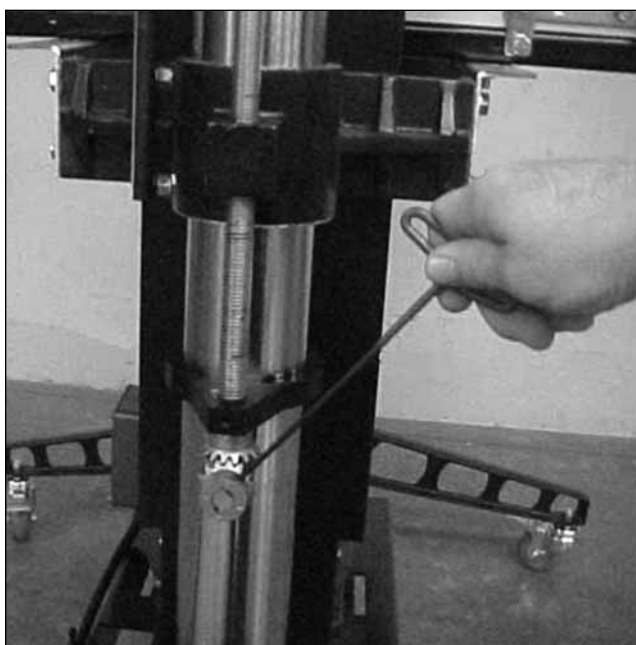
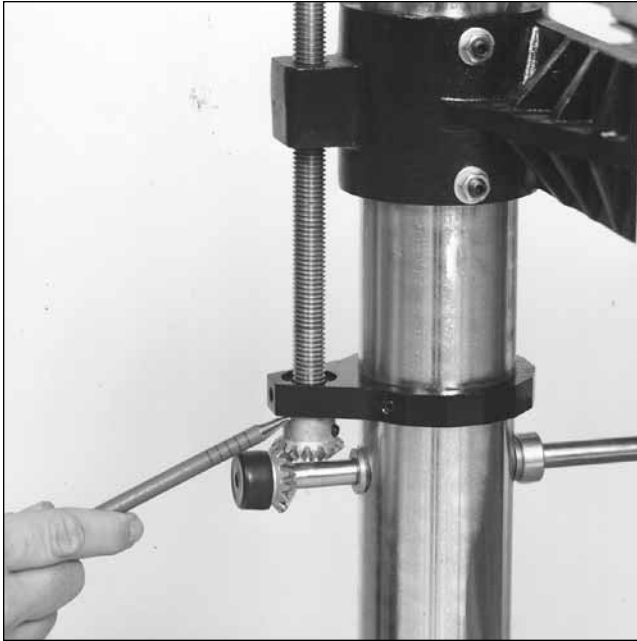

Fig. 20. Adjusting miter gears for proper mesh.
Fig. 21. Miter gear below adjusting screw support.
2. Lubricate thoroughly by applying penetrating lubricant to the table support castings where they contact the column tubes, and to all contact points of adjusting screws and cross bar (Fig. 20). Also apply grease to the miter gears.
5. If the height adjustment mechanism feels rough, check the miter gear (Fig. 20) alignment. The miter gears can be adjusted on their shafts by loosening the set screws on the gears. Check and adjust so that the gear mesh is not too tight or too loose, and that the gear teeth align with the opposing gear. Note that the shaft collars located on the cross bar (Fig. 21) should be adjusted to control the lateral movement of the cross bar to maintain accurate miter gear alignment and mesh.